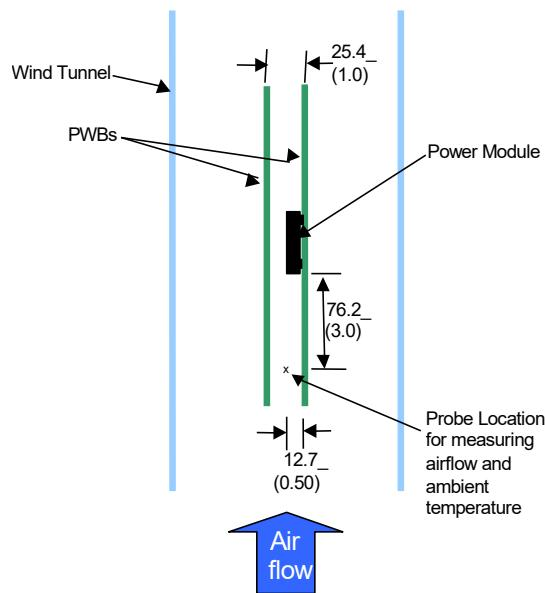

Figure 34. Thermal Test Setup.
Power modules operate in a variety of thermal environments; however, sufficient cooling should always be provided to help ensure reliable operation. Considerations include ambient temperature, airflow, module power dissipation, and the need for increased reliability. A reduction in the operating temperature of the module will result in an increase in reliability. The thermal data presented here is based on physical measurements taken in a wind tunnel. The test set-up is shown in Figure 34. The preferred airflow direction for cooling the module and the thermal reference points, Tref used in the specifications are shown in Figure 35. For reliable operation the temperatures at these points should not exceed 120°C (IC300) and 115°C (C202). The output power of the module should not exceed the rated power of the module ($V_{o,\text{set}} \times I_{o,\text{max}}$). Please refer to the Application Note "Thermal Characterization Process for Open-Frame Board-Mounted Power Modules" for a detailed discussion of thermal aspects including maximum device temperatures. Increased airflow over the module enhances the heat transfer via convection. The thermal derating of figures 2, 8, 14 and 20 show the maximum output current that can be delivered by each module in the indicated orientation without exceeding the maximum Tref temperature versus local ambient temperature (TA) for several air flow conditions. The thermal derating curves were generated using a 12 layer evaluation board with 3oz copper in inner layers and 2 oz in outer layers.